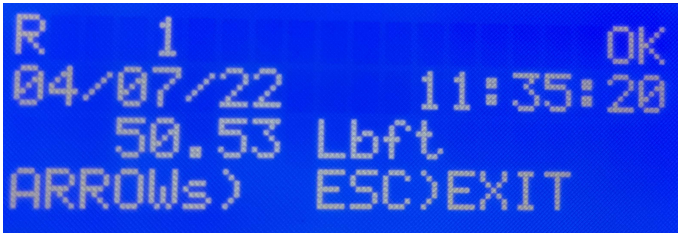

Figure 18. View All Data
From the Data Menu, press the 1 Key to view the peak readings stored in the Model 922. Use the Up Arrow and Down Arrow keys to scroll through the readings. As shown in Figure 18, included in the displayed data is the reading number, the date and time that the reading was recorded, the data itself, and in the upper right corner and indicator of whether the reading was high (TQHI), low (TQLO), or within the programmed limits (OK). Press ESC to return to the View Data menu.